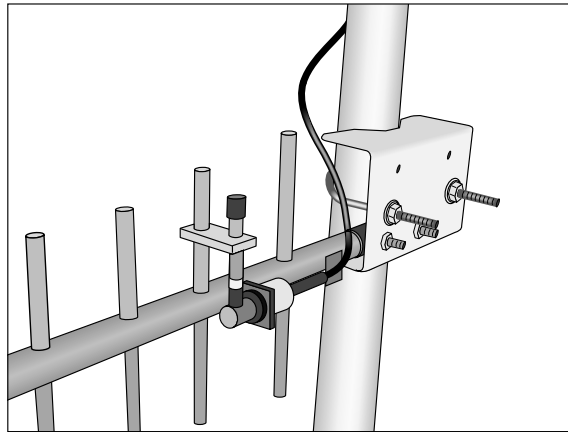

FIGURE 3.3-3. Cellular Phone Antenna Mounting
- 1) Mount the antenna to the ET Tower as shown in Figure 3.3-3.